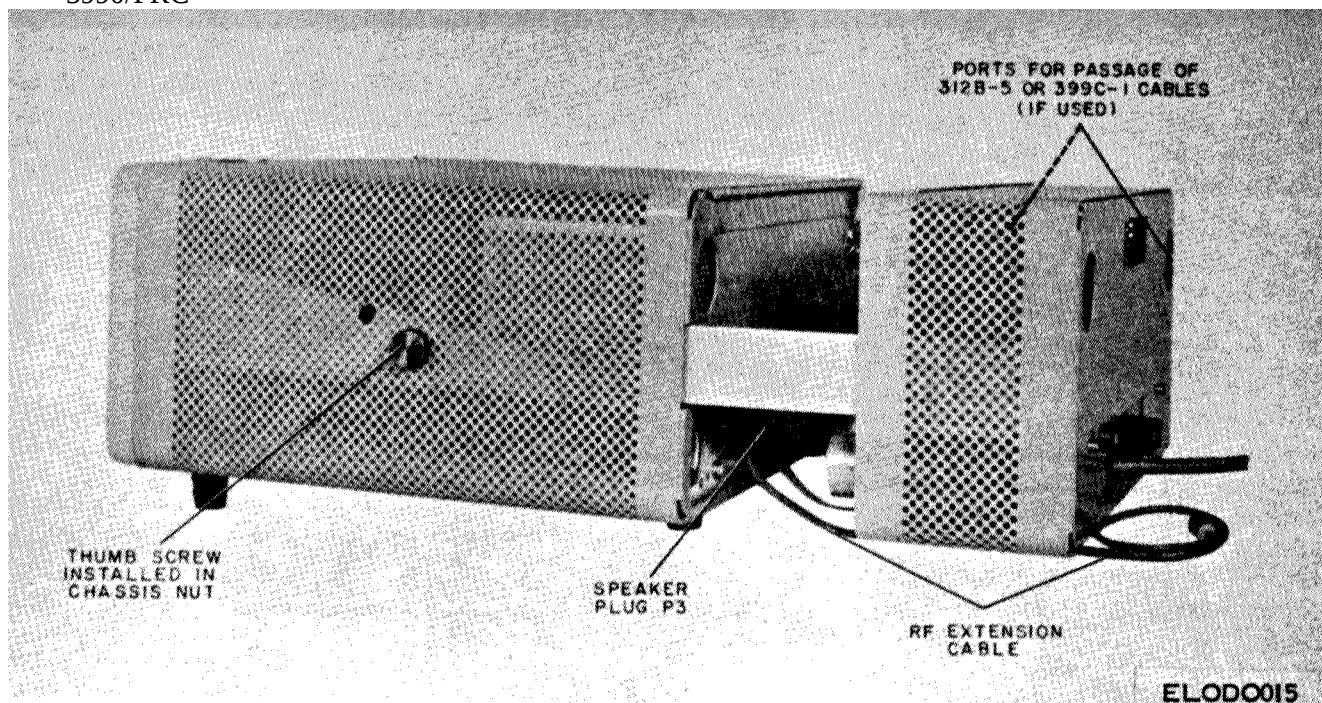

Figure 7-4. Phone jack assembly during assembly.
c. With the Collins KWM-2/2A and PP-3990/FRC93 positioned (fig. 7-4), make the necessary phone jack connections. Use the end of the cable with the right-angle connectors at the Collins KWM-2/ 2A connections. Run the shielded cables down through the cord channels in the mating face of the PP-3990/FRC-93 and underneath the power supply. Power cables for Control, Radio Set C7515/FRC-93 (Collins 312B-5) may be run through the large holes in the front and back sides of the PP-3990/FRC-93.